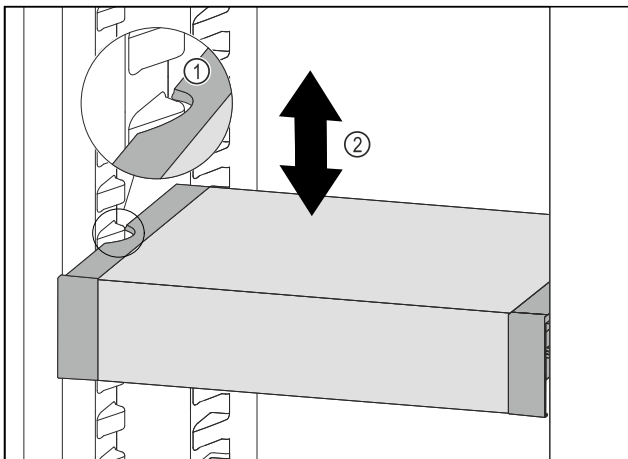

Fig. 98
- Pull VarioSafe forwards until the recesses in the side of the VarioSafe are at the level of the support rib in the refrigerator compartment. *Fig. 98 (1)*
- Move VarioSafe up or down in the refrigerator compartment until the desired height is reached. *Fig. 98 (2)*